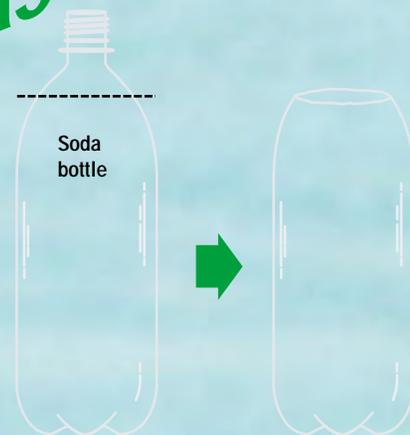

Figure 1
1. Cut the tops off both soda bottles as shown in Figure 1. Use a utility knife to start the cut, then a good sharp pair of scissors to continue it all the way around. When finished, you will have two tall plastic beakers with rims bent slightly inward at the top. Label them “A” and “B”.